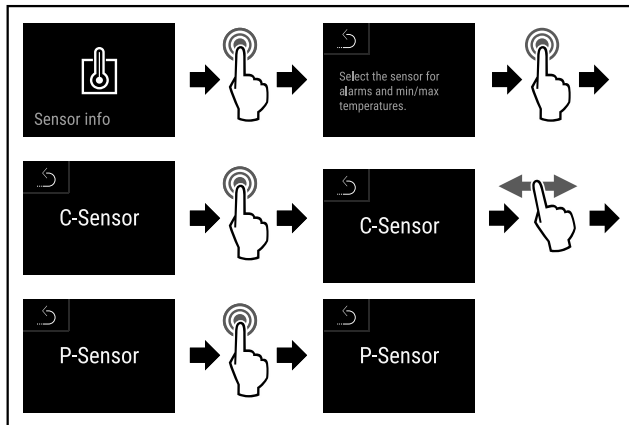

Fig. 167
- ▶ Complete steps (see Fig. 167).